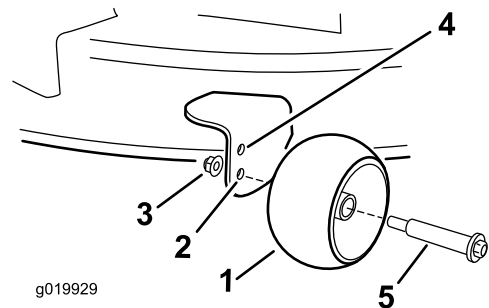

Figure 24
- Upper hole—use this position with the mower deck in the 63mm (2-1/2 inch) and below height-of-cut positions (Figure 24).
- Lower hole—use this position with the mower deck in the 76mm (3 inch) and above height-of-cut positions (Figure 24).